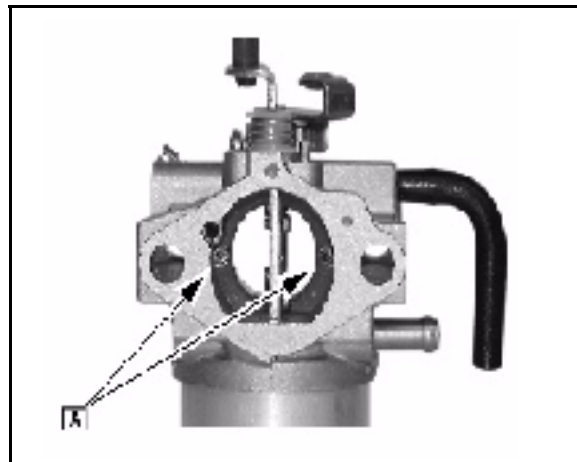

Fig. 62
**NOTE:** Engines with type numbers *not ending in A1 or E1* have removable idle and main air jets. Remove or install jets ([A] Fig. 62) with carburetor jet screwdriver (#19280).